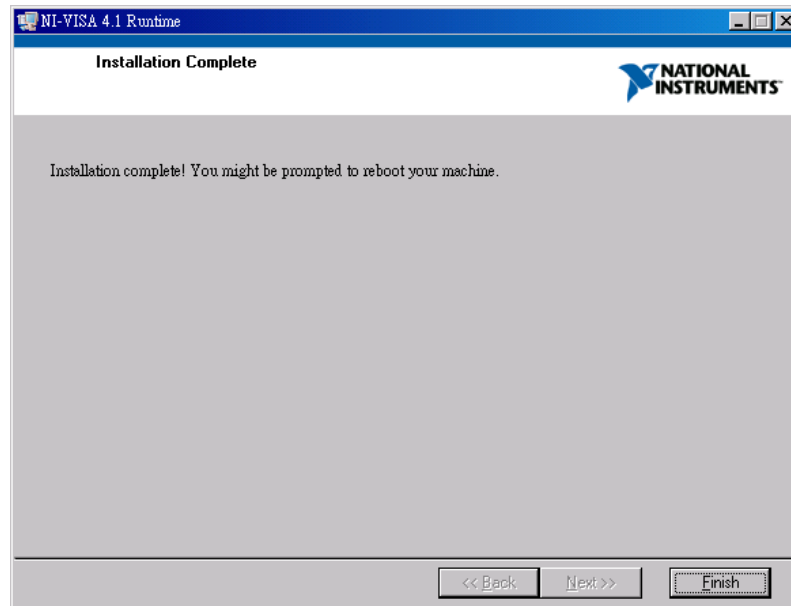

Figure 2-11 Complete All Installation Procedures Screen
3. Follow installation hint to click **Next** sequentially for completing all installation procedures. The screen of Installation Completed is shown as *Figure 2-11*.